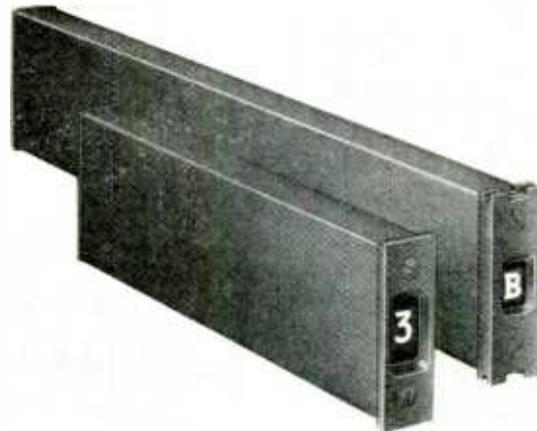

Fig. 8. Top: 12 (left)- and 64 (right)-character readouts. Exposed view below shows drum of smaller unit. Larger uses flexible tape.
Fig. 8. (A) Blocking oscillator generates pulses used to trigger the heartbeat. (B) Circuit diagram of the two-transistor pacemaker, a device which is surgically implanted in patient.
A more complex readout is the *Union Switch and Signal Co.* series, two of which are shown in Fig. 8. The shorter unit displays numerals by means of a drum and the longer model uses a flexible metal tape to display up to 64 characters. Both units are driven by a very precise mechanism and are capable of accepting binary information to produce a display of numbers or letters. The lower illustration shows the internal view of the drum-type numeral indicator. One-half of the assembly contains a special, flat d.c. motor which drives the numeral drum through a worm-gear arrangement. A binary coded printed wiring commutator is part of the drum. The other half of the assembly contains the brushes for the commutator and printed wiring to bring the brush connections to the plug-in socket at the rear of the indicator. A four-bit binary-code input connects power to the motor until the drum and its commutator are in the correct binary code position, which also corresponds to the decimal number to be displayed. At that position power to the motor is shut off. In the case of the 64-character version the tape passes over two drums, one in front and one in the rear, and each of these drums has a commutator and a set of brushes, providing the required 6 bits of binary code for 64 positions. Illuminated versions of this readout are also in use and contain a very small bulb behind the rim of the numeral drum. The drum rim is made of transparent plastic permitting light to pass through.